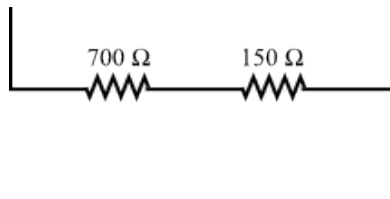

Figure 6
- 1 Connect the 150 ohm and the 700 ohm resistors as shown in Figure 6 (**they should not be connected to anything else!**). They are said to be in series because the current must first pass through one and then through the other. The current encounters the resistance of each resistor, so the net resistance should increase and the current should go down.